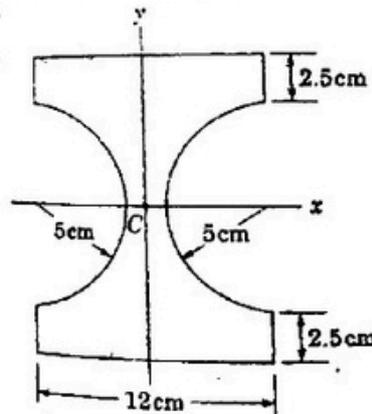

Figure 1
- Q2 (a) State and prove Varignon's Theorem. (3)
- (b) Find the moment of inertia of the cross section of the iron beam (Fig.1) with respect to the centroidal axis. (7)